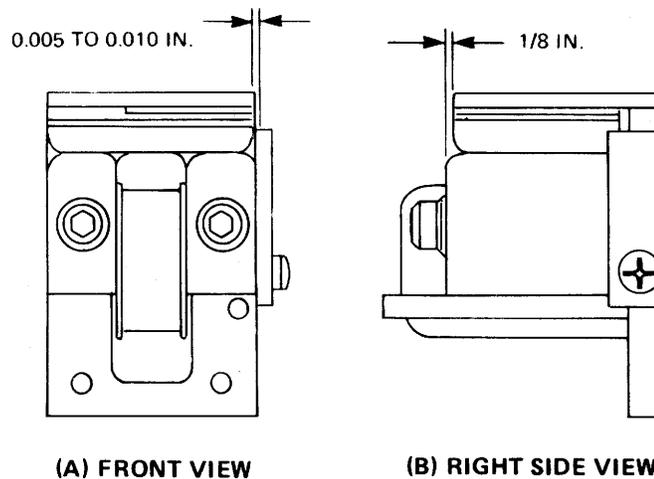

Figure 6-61. Brake Armature Positioning.
6-62. Reader Brake Coil Removal and Replacement. To replace the brake coil, see figure 6-61, and proceed as follows:
a. Assemble spring mounting bracket (with spring and armature attached) to baseplate with back of bracket flush to back of baseplate; position armature 0.005 to 0.010 inch from guide bar [see figure 6-61(A)] and 1/8-inch back from front edge of coil assembly [see figure 6-61(B)].